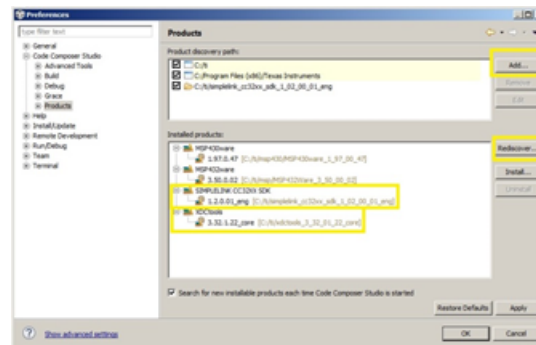

Figure 34. CCS Installed Products
1. Choose Window → Preferences → Code Composer Studio → Products (see Figure 34).